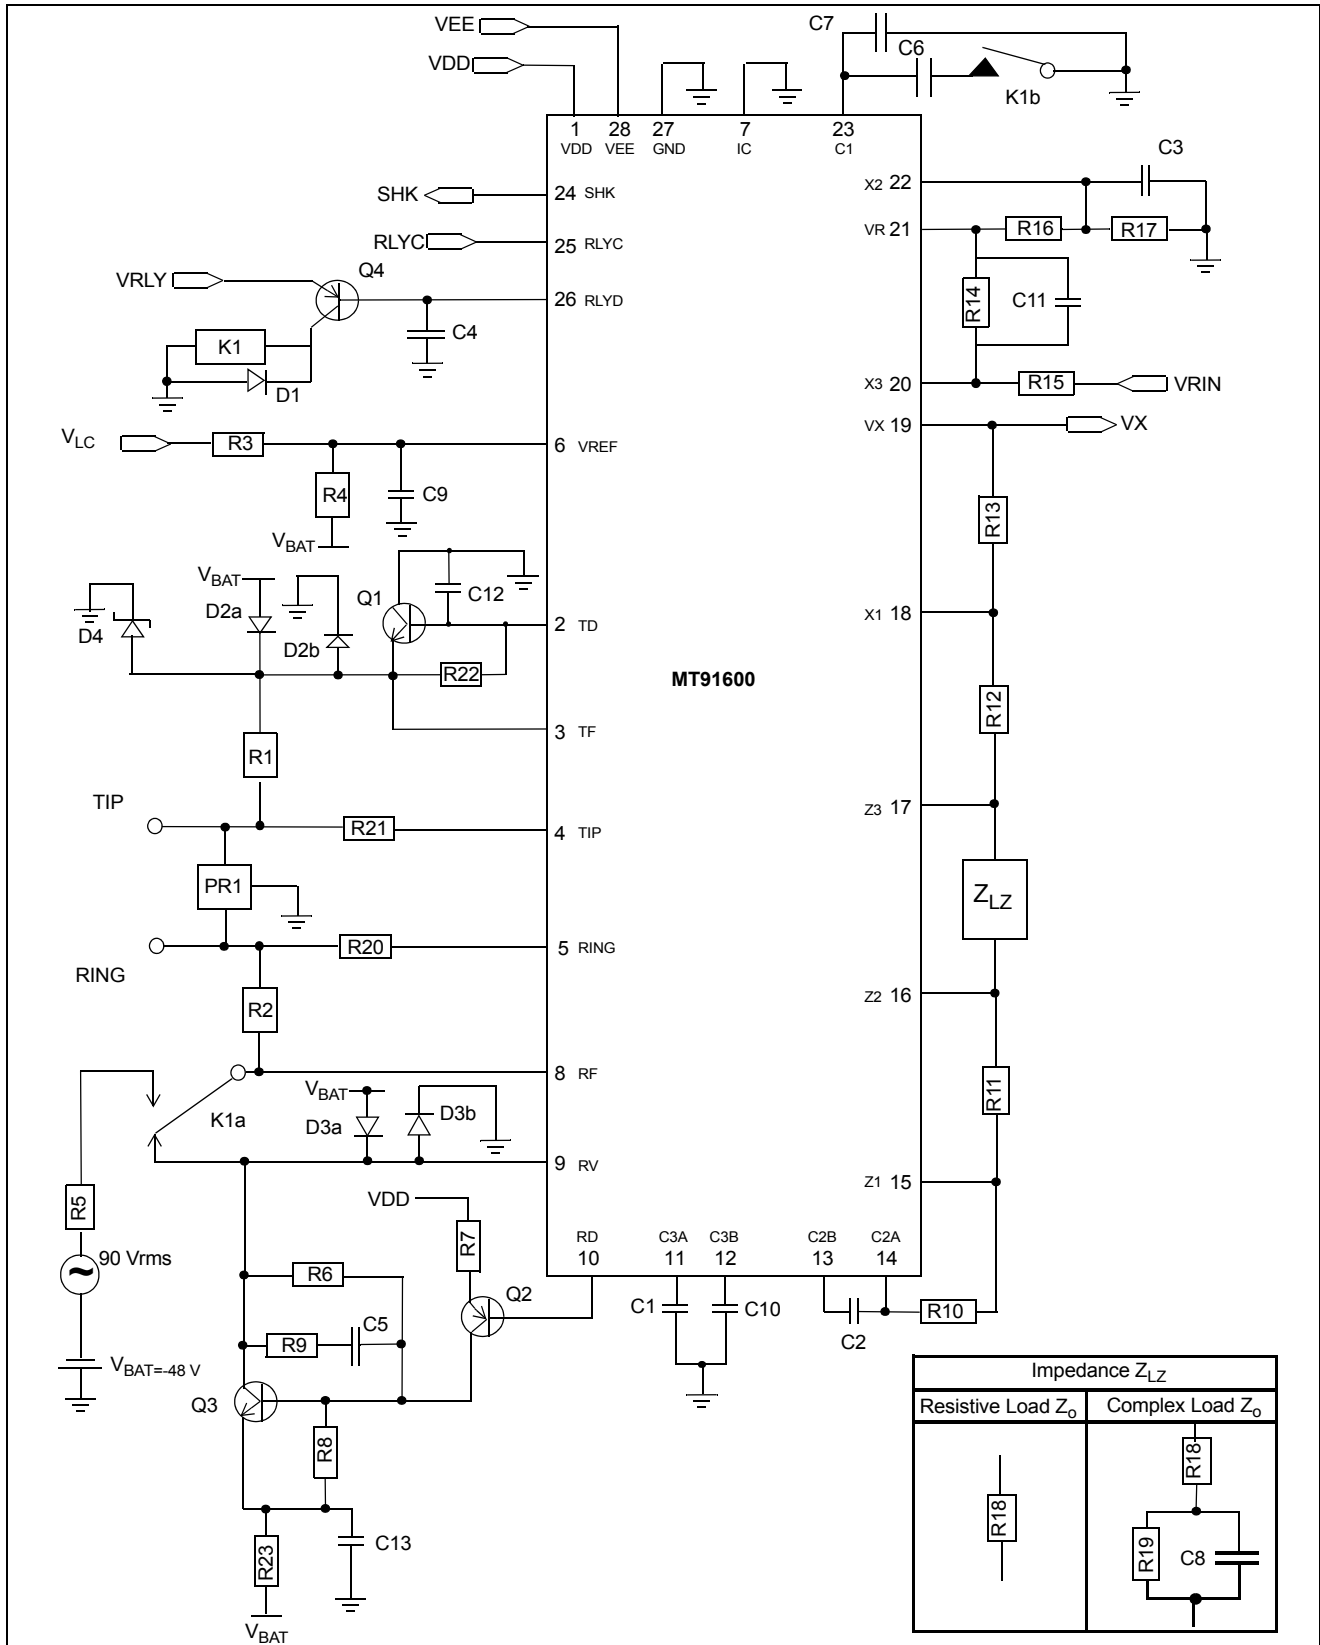

Figure 5 - Typical Application
**Component List\* for a Typical Application with a Resistive 600  $\Omega$  Line Impedance** - Refer to Figure 5 for component designation and recommended configuration